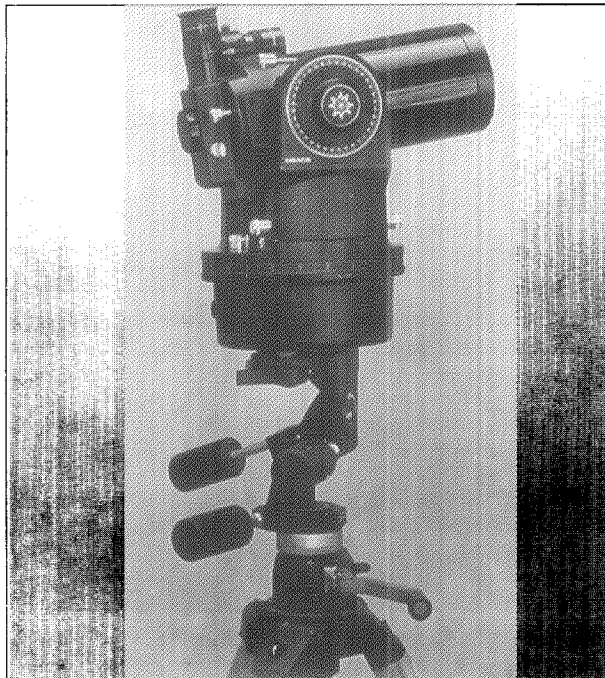

Fig. 5: Placement of the ETX Astro Telescope on a heavy-duty photo tripod.
2. Alternately, the entire ETX Astro Telescope, including fork mount, may be attached to a heavy-duty photo tripod (Fig. 5). Attachment to a photo tripod is effected by means of the threaded hole (3), Fig. 3, in the center of the bottom surface of the telescope's drive base. This central hole is threaded with the photo-tripod-standard 1/4-20 thread. *We emphasize, however, that only a strong, heavy-duty photo tripod, designed to accept the weight of the 9 lb. (4.1 kg) ETX Astro Telescope should be used in the above application. Check with the tripod manufacturer to confirm that the intended tripod is designed to carry such a weight safely and securely, before mounting the telescope in this way.*